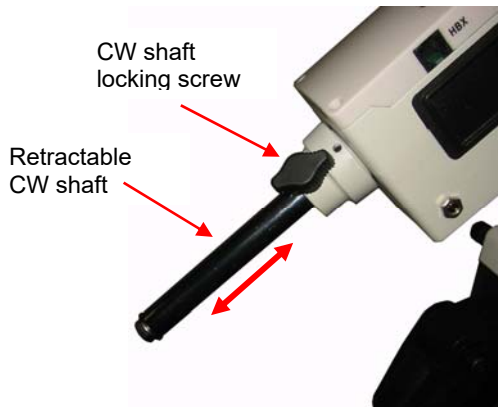
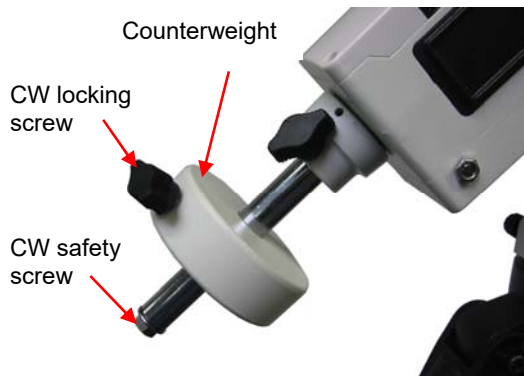

Figure 7
Figure 8
4. **Install Counterweight (CW):** The mount comes with one 1 kg (2.2 lbs) counterweight. However, because of its unique design, no CW is needed if the payload is less than 4 lbs. **The mount and installed batteries will provide balancing weight needed.** If a payload is greater than 8.8 lbs (4 kg, this value may vary depends on the scope diameter), additional CW is needed. The Counterweight Shaft is stored inside the mount head. If a CW is needed, release the CW Shaft Locking Screw to pull out the shaft (Figure 7). Mount a CW onto the shaft and tighten the CW Locking Screw to hold the CW in place. Tighten the CW Safety Screw (Figure 8).